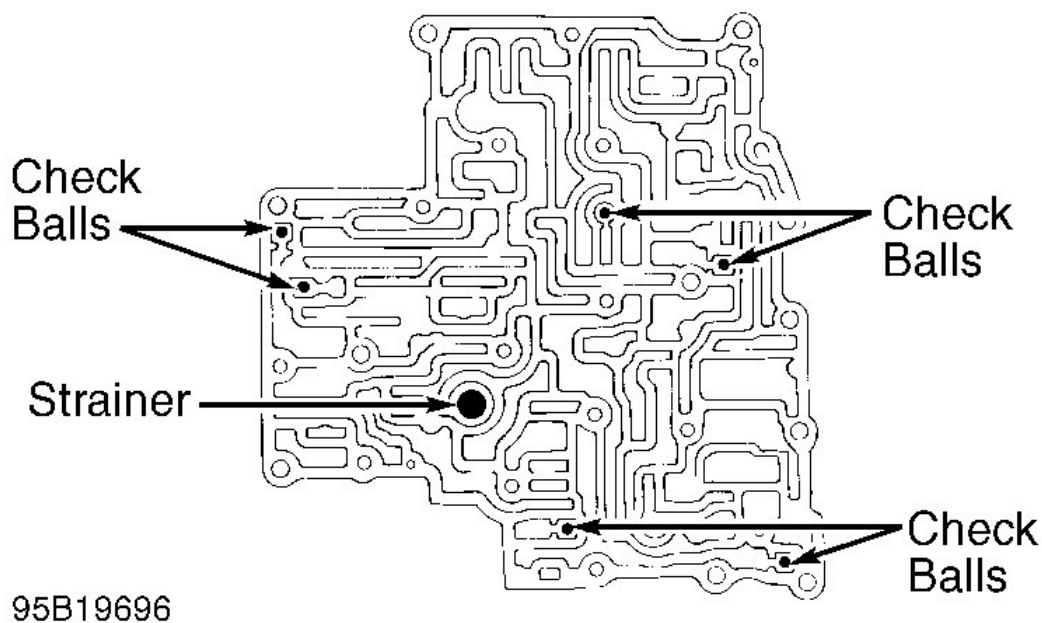
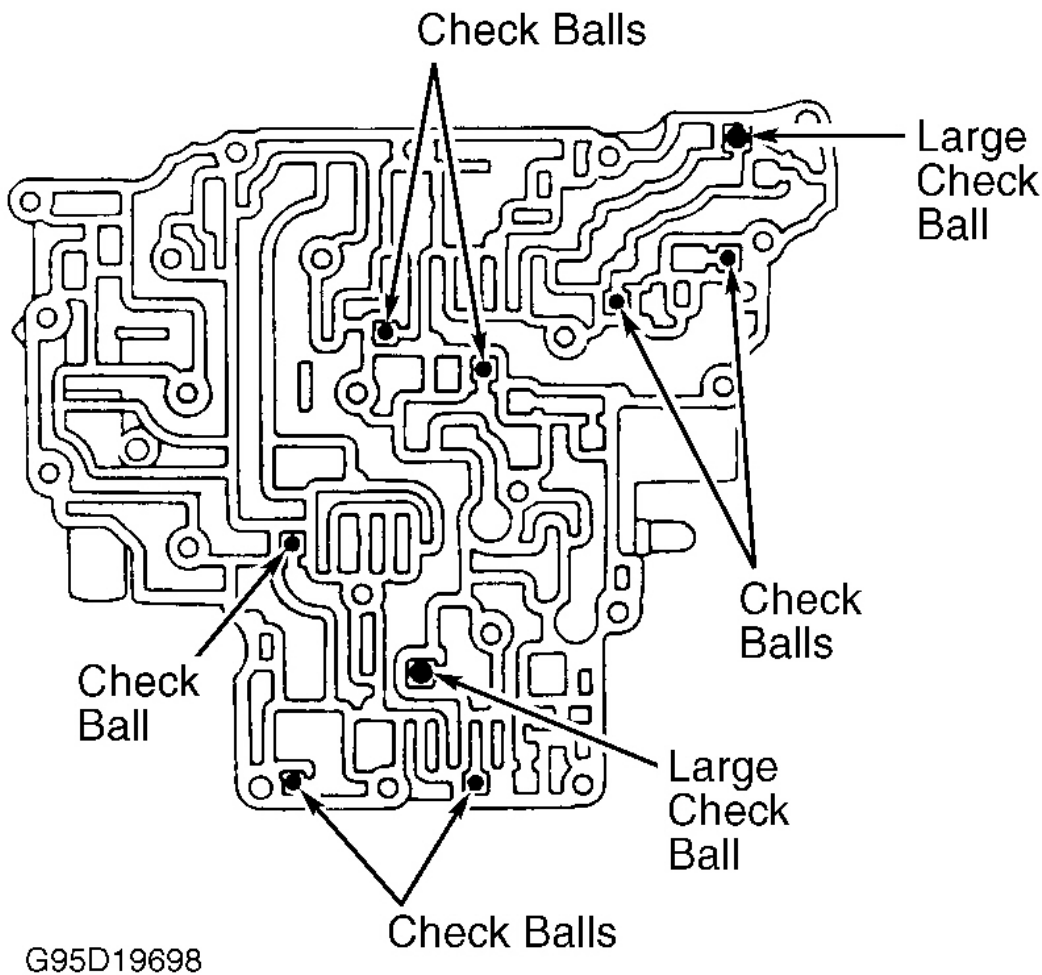

Fig. 64: Upper Valve Body Check Ball Locations (A-242L, A-241E & A-244E)
Fig. 65: Upper Valve Body Check Ball Locations (A-245E & A246E)
3. Replace spring if not within specification. See appropriate VALVE BODY SPRING SPECIFICATIONS table. Ensure valve body springs correspond with appropriate valve. Ensure check balls, pins, retainers, strainers and vibrating stopper is installed in appropriate locations. See **Fig. 64** or **Fig. 65** .